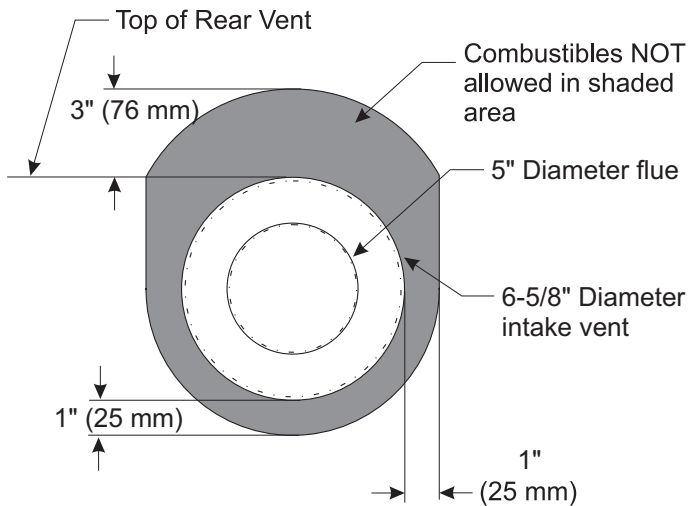

Figure 31
**NOTICE:** Maintain one inch of clearance around vertical vent pipe. See Figure 31.
For horizontal vent, maintain a minimum 1 inch clearance to the bottom and sides of the vent, and 3 inch clearance to combustibles above the vent pipe. See Figure 31.